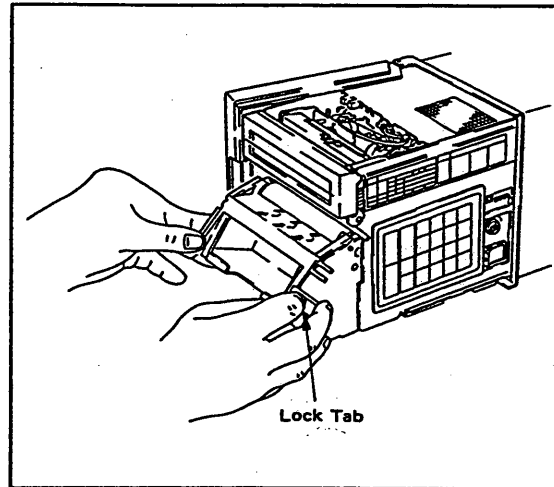

Figure 5-14.
- (3) While gently pressing the chart paper compartment lock tab, located at the lower right front, in the direction of the arrow, swing and lift the compartment away from the unit. (See Figure 5-14.)
- (4) Remove the battery cartridge by pressing the lock tab down and pulling the cartridge out of the internal assembly by the handle. The battery